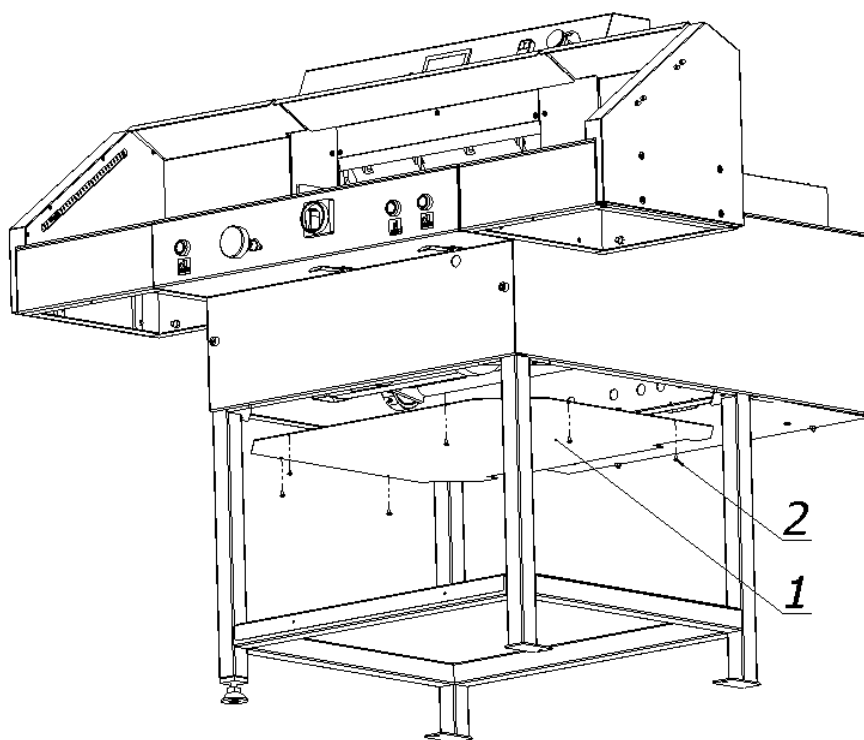

Figure 43. Removing the bottom cover (1)
9.3.1.2 Remove the lower cover 2 (fig. 43)